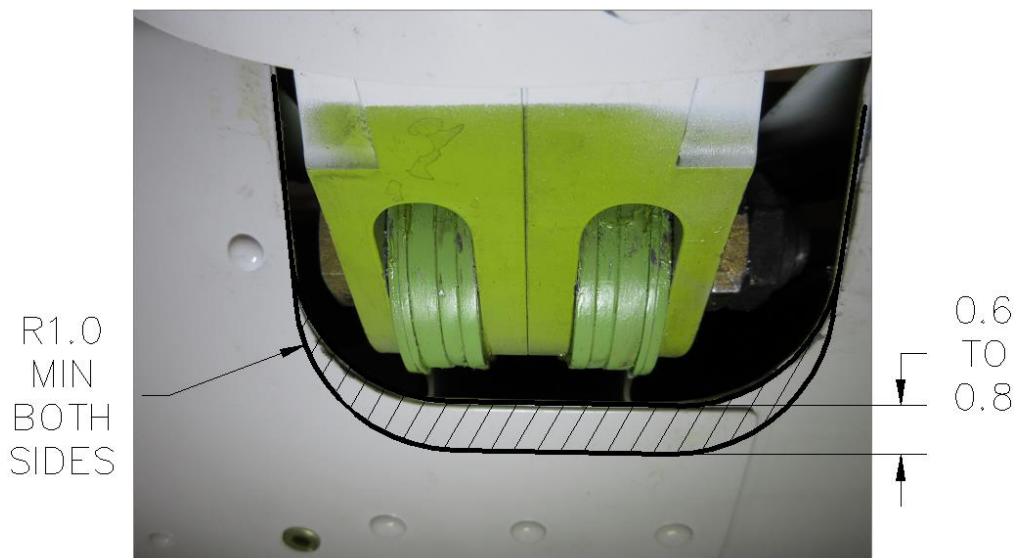

Figure 5: Fuselage Skin Modification
- 1) Enlarge the cut out in the Forward Cabin Belly Skin (P/N GA8-533021-113), Aft Cockpit Belly Skin (P/N GA8-533021-111) and Fuselage Strut Skin Doubler (P/N GA8-533022-095) to the dimensions shown in Figure 5. De-burr and finish all blended edges with a Scotch-Brite® pad or similar to achieve a surface finish of at least 125 microinch Ra (3.2 micron Ra).